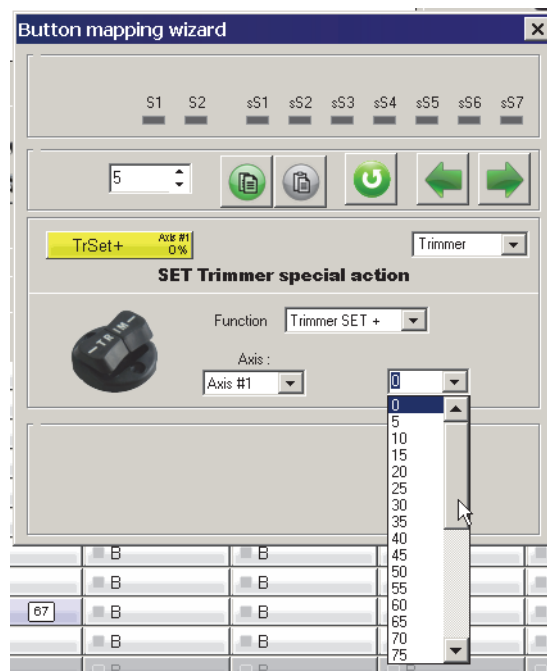

Fig. 4.44.
**Button mapping wizard** dialog for these trimmers is shown on Fig. 4.44. Signs of **Trimmer SET+** and **Trimmer SET-** specify trimming direction. After button press axis response will be equal to specified value.